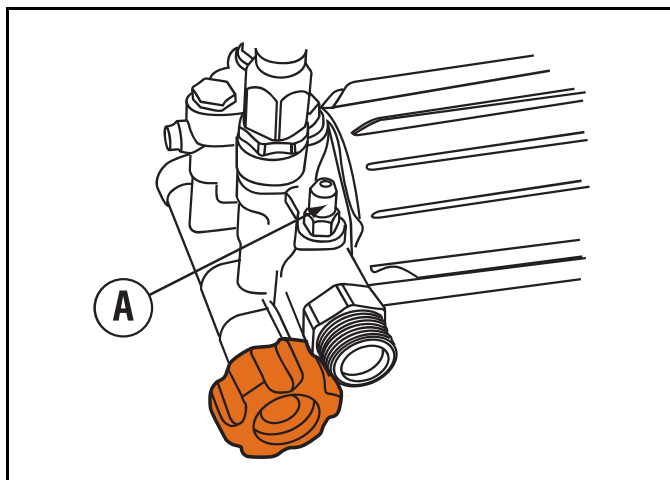

Figure 4-8. Siphon Tube Location
8. Attach siphon tube to location A (Figure 4-8).